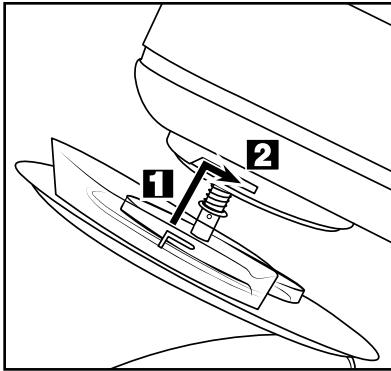

Fig. 1: Fitting the lid **9**
- Slide the lid **9** onto the swivel arm **1** from below so that the catches on the lid **9** engage in the rails on the swivel arm **1** (Fig. 1 / **1**). The arrow on the lid **9** must point to the symbol  on the swivel arm **1**:
- To lock, turn the lid **9** in the direction of the arrow  so that the catch engages and the lid **9** fits firmly (Fig. 1 / **2**).